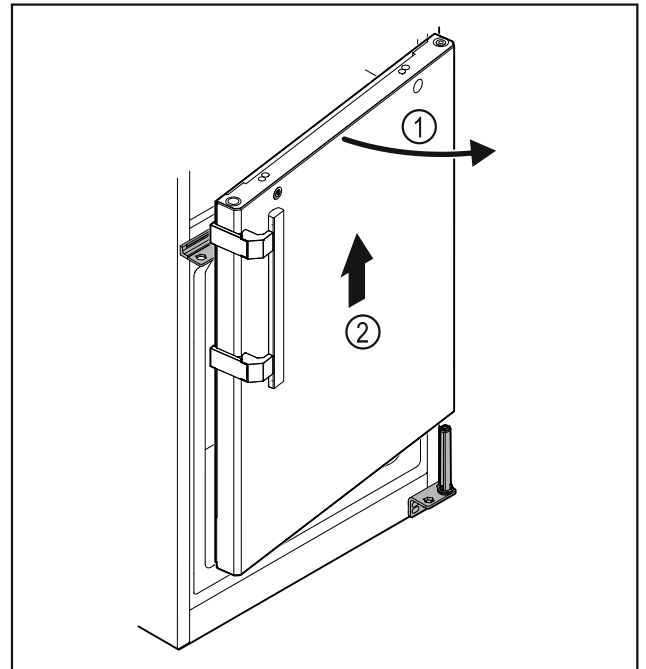

Fig. 34
- ▶ Open the door Fig. 34 (1) slightly, lift it straight up by around 200 mm and take it off Fig. 34 (2).